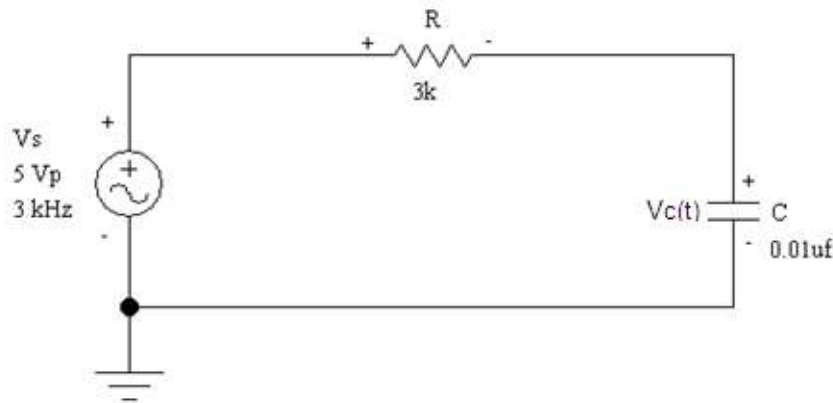

Figure 5.1
1. In Figure 5.1, let  $V_S$  be a square wave (TTL Function) from 0 to 5 Vp with a frequency of 3 kHz,  $R_1 = 3\text{ k}\Omega$ ,  $C_1 = 0.01\ \mu\text{F}$ . Calculate  $\tau$  and sketch the charging and discharging of  $V_C(t)$ . Also, show a computer simulation.
1. Construct the circuit shown in Figure 5.1. Set up the function generator to produce a square wave (TTL Function) from 0 to 5 Vp with a frequency of 3 kHz.